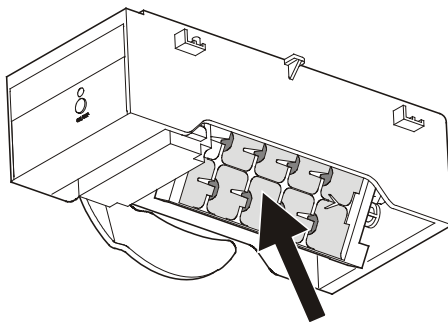

**Figure 20**
- Press the button on the Ice Maker housing (**Figure 20**) for approx. 3 seconds. The LED above the button starts blinking.
*The Ice Maker can also be turned on and off by pressing the "On/Off" button at the Ice Maker housing for approximately 1 second (**Figure 20**).*